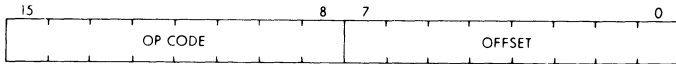

Figure 4-3 Branch Instruction Format
- *Branch* — The first part of the word specifies the operation to be performed; the second part indicates where the action is to take place in the program. Figure 4-3 illustrates the branch instruction format.